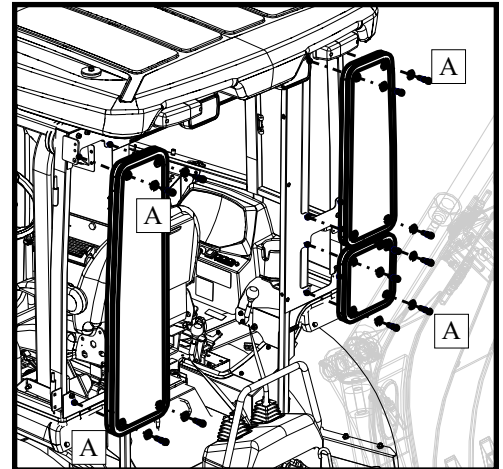

Figure 16.1: Rear Panel Windows
- 16.1 Attach each of the three rear windows to the rear panel in the same manner as the windshield (see Figure 16.1). Use the 1-1/2" screws in the four corners where indicated by the "A"